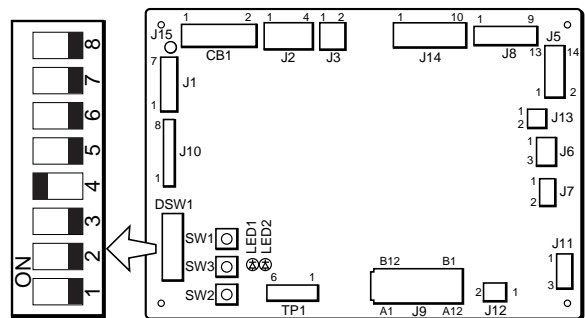

Figure 5-131
2. Be sure that the test strip is pulled straight along the separation belt (Figure 5-131).